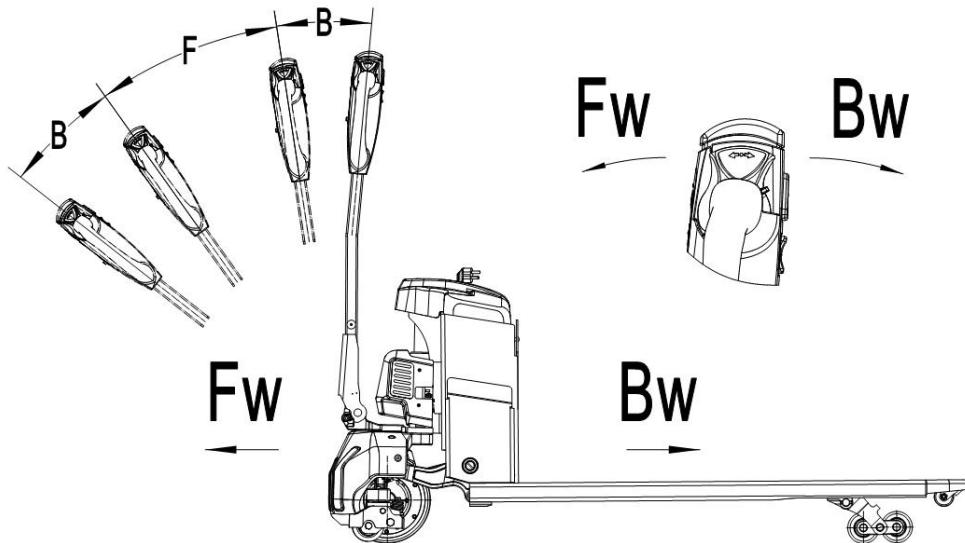

Fig. 8: Operating direction
After starting the truck by the key (15), move the tiller to the operating zone ('F', Fig.8).
Turn the accelerator knob to the desired direction forward 'Fw.' or backward 'Bw.' (Fig. 8).